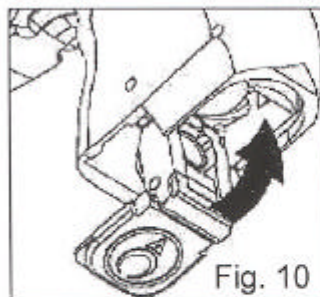

Fig. 10
- replace the clamp into place until it is set tight (a click is heard) (Fig.10)